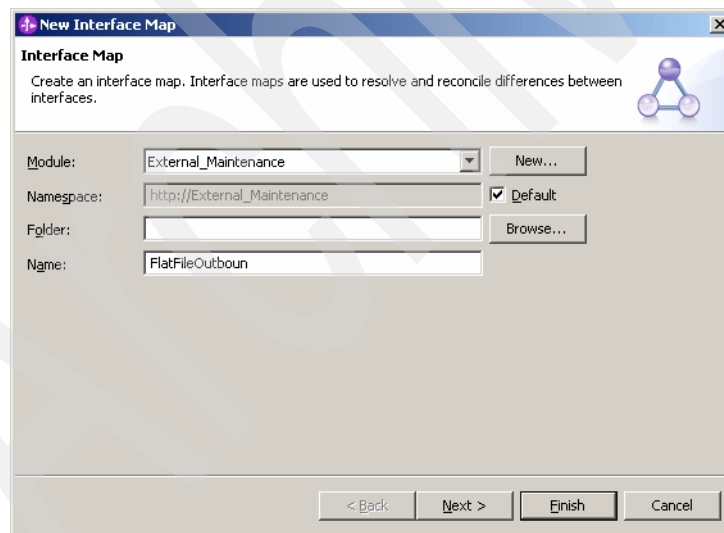

Figure 2-15 New interface map
2. Enter a name (we chose FlatFileOutbound) (Figure 2-15). Click **Next**.